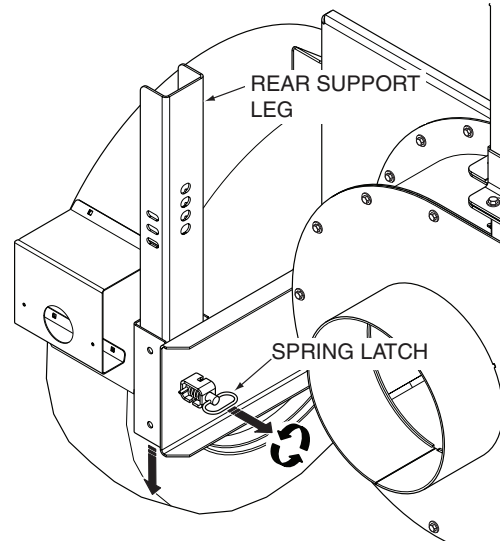

Figure 2-1. Lowering the Rear Support Leg
10. Lower the Support Leg to the ground and secure with the spring latch when the machine is not attached to a tow vehicle. See Figure 2-1.